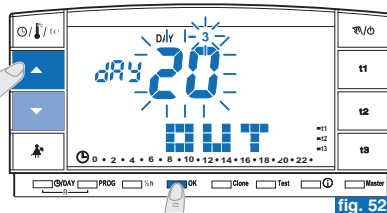

fig. 52
- Confirm with **OK** (fig. 52).